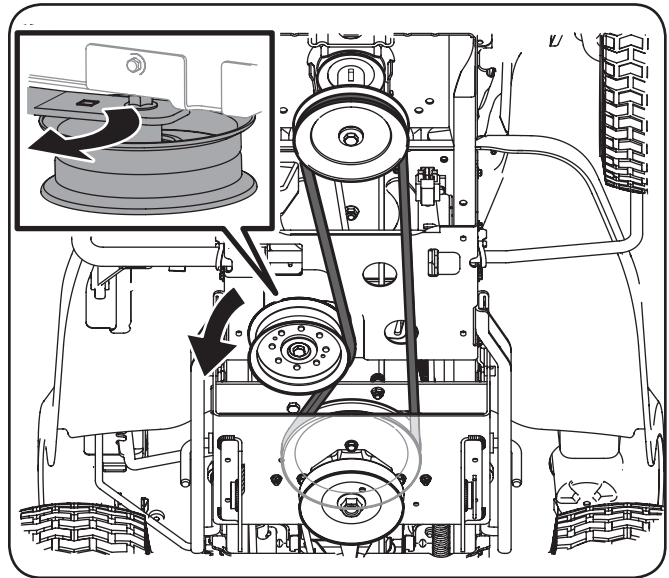

Figure 3-10
- Route the carriage assembly's belt around the engine pulley (or electric PTO clutch, on models with an **Electric PTO**) as shown in Figure 3-10.